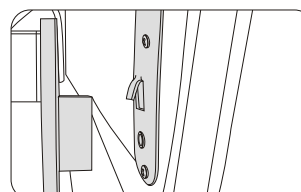

Figure 5
- Hook the front-end of armrest on the steel frame and lock the buckle. (figure 5)